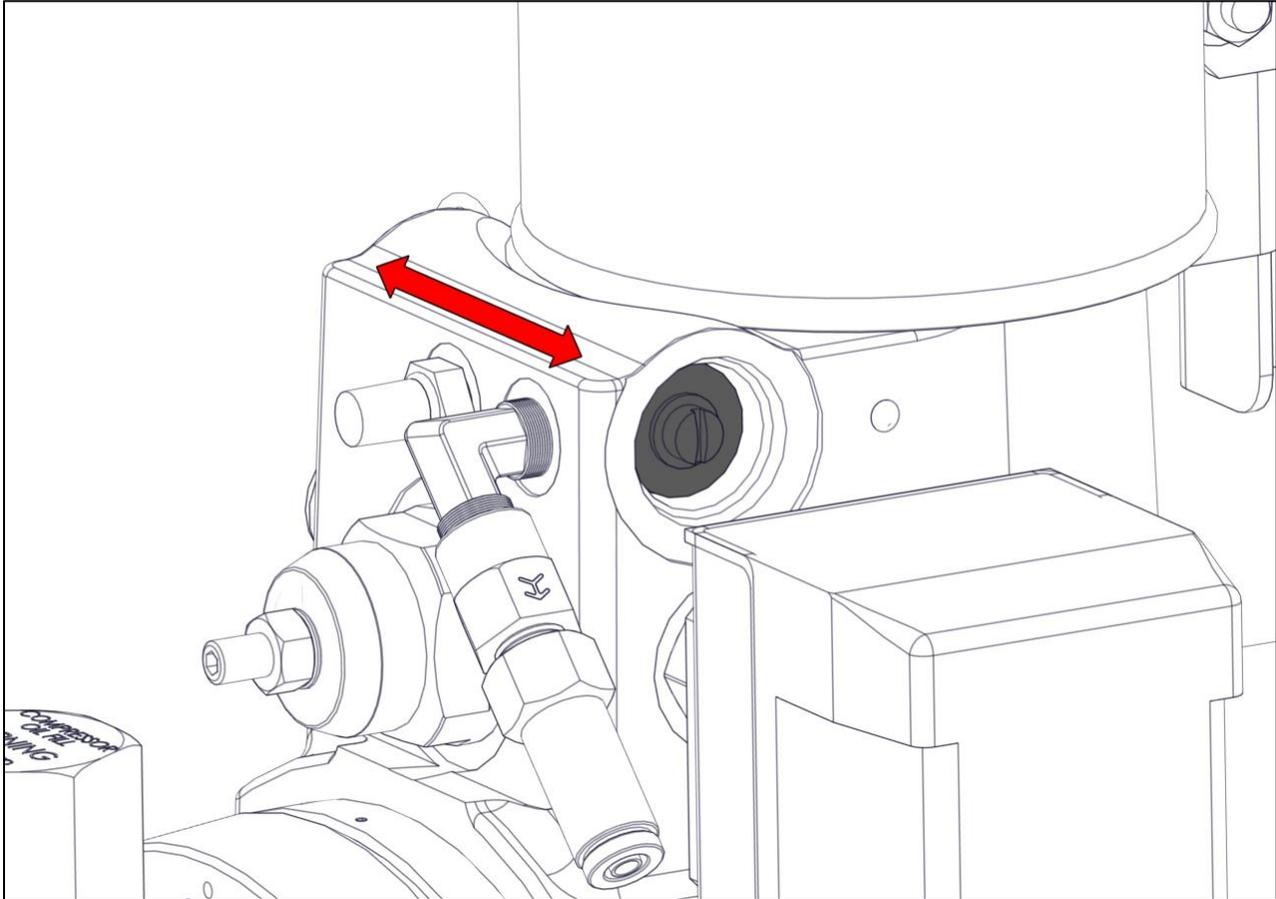

Figure 2 – Check shuttle valve for operation
- Slide the shuttle valve back and forth to the extent of its travel (approximately 1/8 in) (Figure 2).